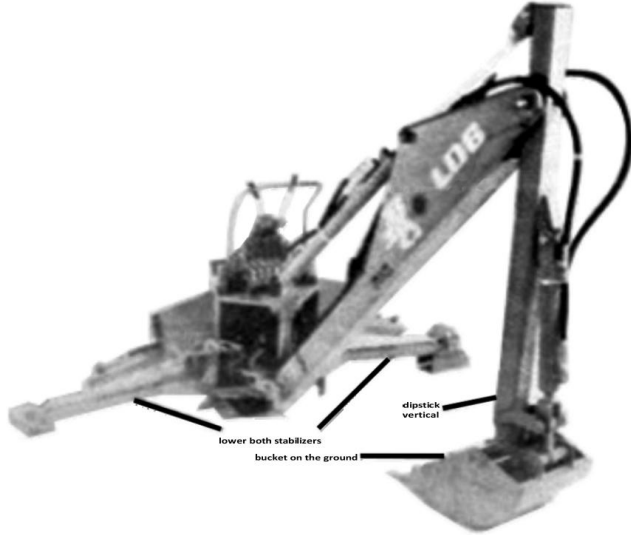

FIGURE 1
2. Lower both stabilizers until they take the backhoe weight. Place the bucket on the ground with the dipper arm vertical to the ground as shown in Fig. 1.